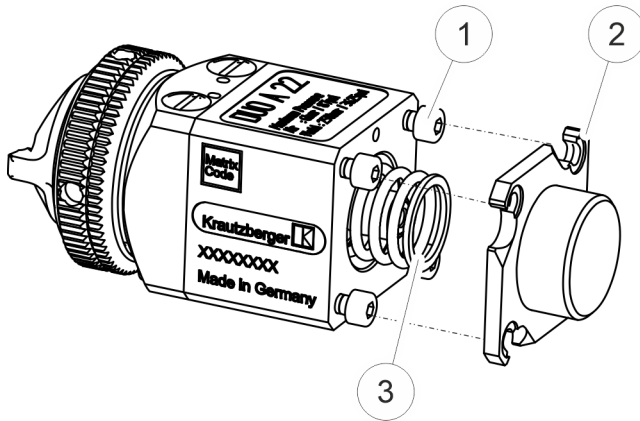

Fig. 26: Screwing the cover in place
3. ➔ Install the pressure spring ( Fig. 26/3). In doing so, ensure that the spring is seated correctly. Hook the cover ( Fig. 26/2) back into the cylinder screws ( Fig. 26/1). Tighten the cylinder screws with a spanner (SW 10) to the stop (tightening torque **2.5 Nm**).